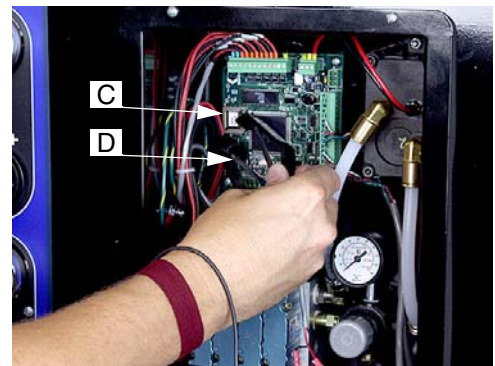

FIG. 2
2. Use a chip remover (D) to remove software chip (C). FIG. 2.